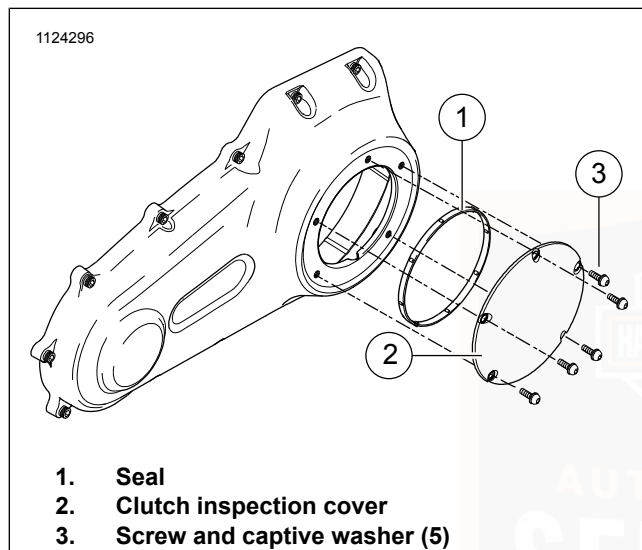
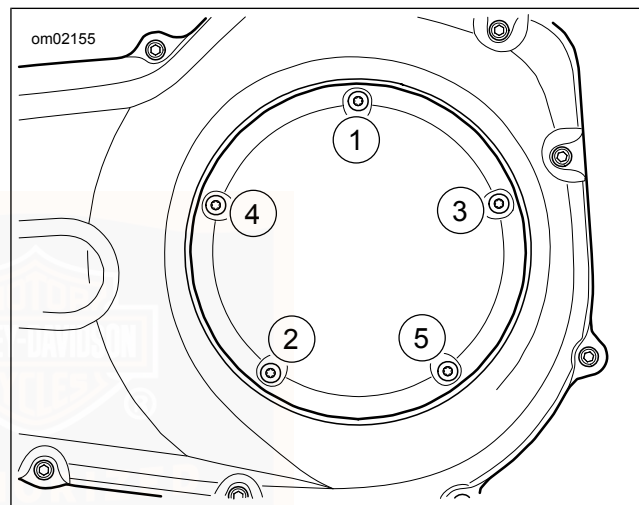

Figure 71. Clutch Cover (Typical)
Figure 72. Clutch Cover Tightening Sequence
6. See Figure 71. Remove screws (3) and clutch inspection cover (2).
7. Remove seal (1). Wipe oil from groove in chaincase cover and mounting surface.
- b. See Figure 71. Position **new** seal (1) in groove in clutch inspection cover (2). Press each of the nubs on seal into the groove.
- c. Secure clutch inspection cover (2) with screws with captive washers (3).
- d. See Figure 72. Tighten in sequence shown to 84–108 **in-lbs** (9.5–12.2 N·m).